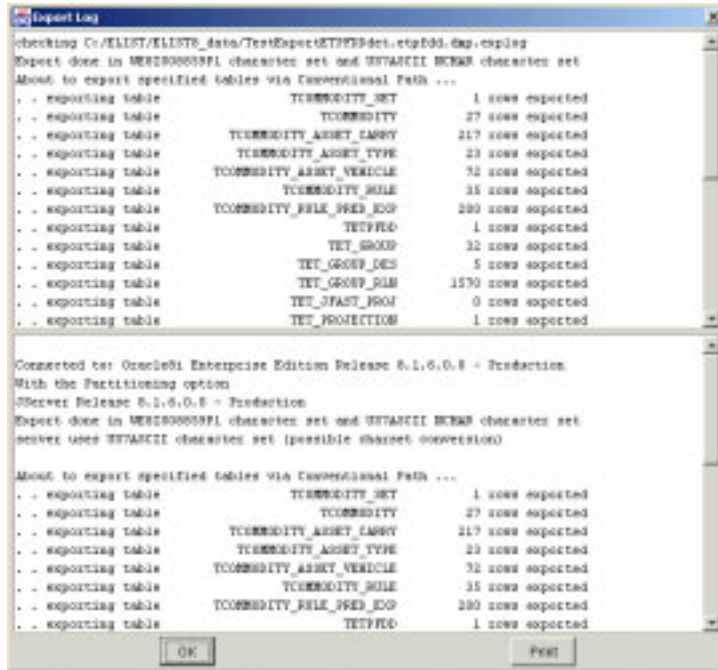

Figure 5.26 Export Log Window
- To export the ETPFDD, click OK. If the file name is valid, the file is saved, and the Export Log window opens (Figure 5.26).